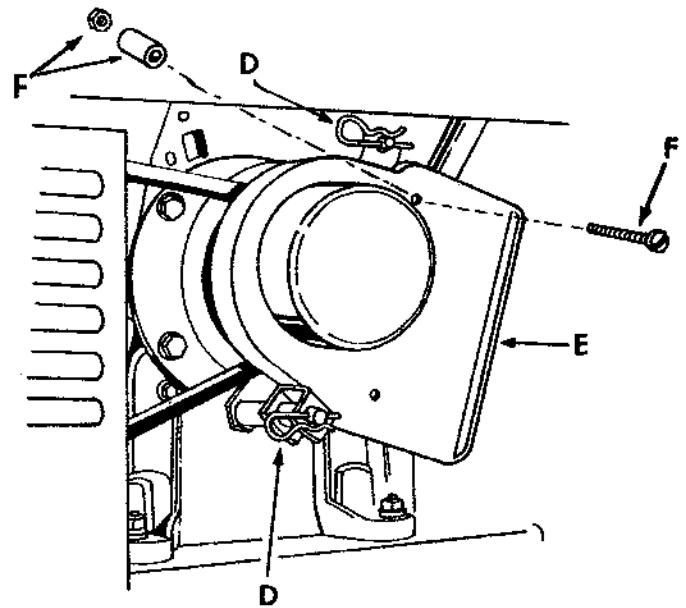

FIG. 5
2. Refer to Fig. 5, (only on 1968 & newer models). Pull the 2 retainer springs (D) holding belt guard (E) to tractor. Remove belt guard (E). Remove bolt, bushing and nut (F) from belt guard (E). (Keep for use with mower).
6. Replace belt guard removed in step 2 Page 5 and secure with two retainer springs. See Fig. 5.